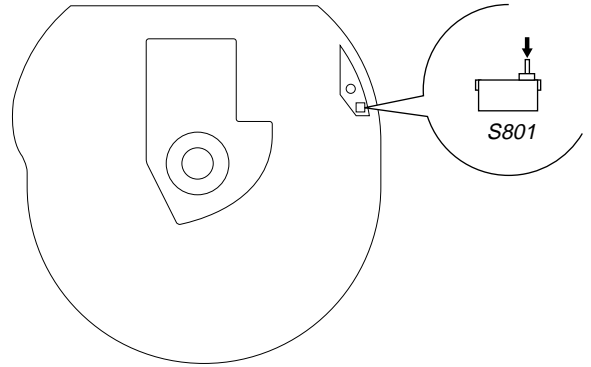

Fig.1 Method to push S801
2. Push the S801 as shown in Fig. 1 .